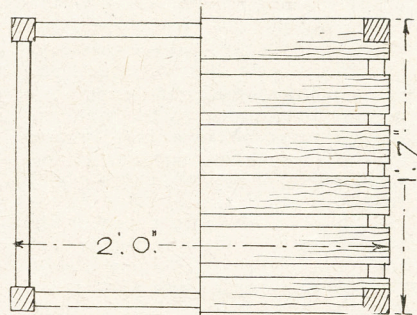

Fig. 8—Plan of half the seat frame and half the seat slats
and cut with the fretsaw. The laths or battens forming the seat 24ins. long are cut, spaced and screwed to the side rails (E) with brass countersunk screws. In the plan, Fig. 8, on the right-hand side is seen the six seat batten, and it will be noted that the extreme back and front one must be notched out to properly fit round the legs.